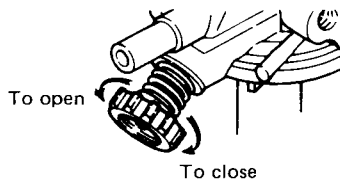

Fig. 3
2. Turn the fuel shut off valve clockwise to the end and then open it counterclockwise one and half turns. (See Fig. 3)